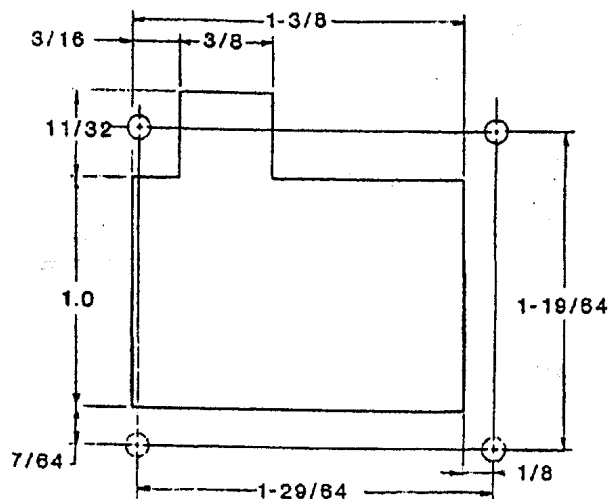

FIGURE 7 INSTRUMENT PANEL CUTOUT
- 4) Make cutout in instrument panel and install switch ass'y (see figure 7). For best results, the cutout dimensions should not vary from those shown in figure 7. Use #4 sheet metal screws (3/4 inch long max.) to attach the switch assembly to the instrument panel.